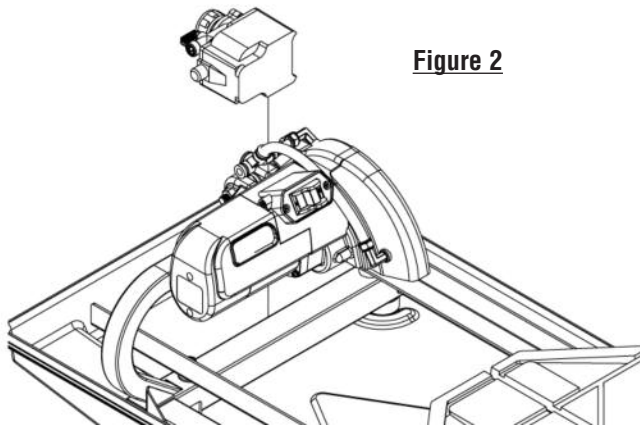

Figure 2
2. Place the pump within the water tray such that the water outlet is horizontal. (see figure 2)